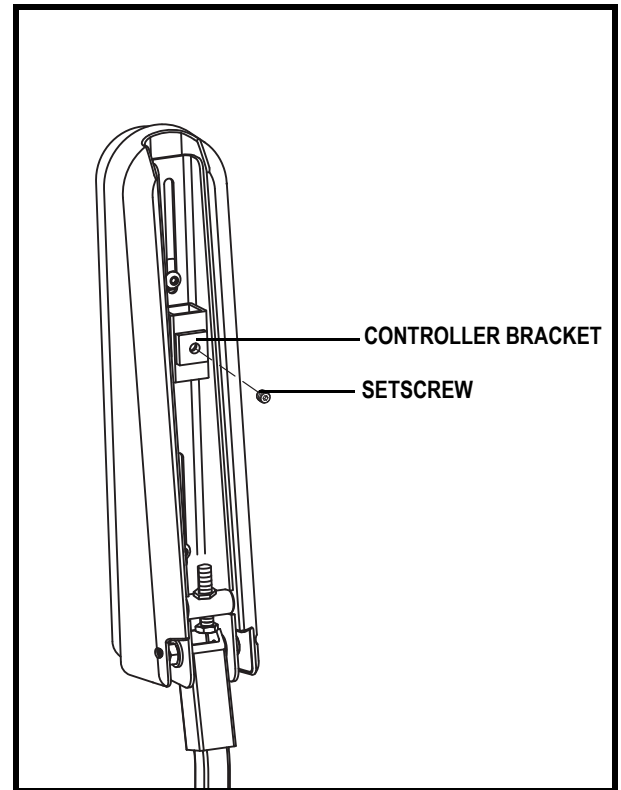

Figure 14. Controller Position
2. Loosen the setscrew on the controller bracket. See **figure 14**.